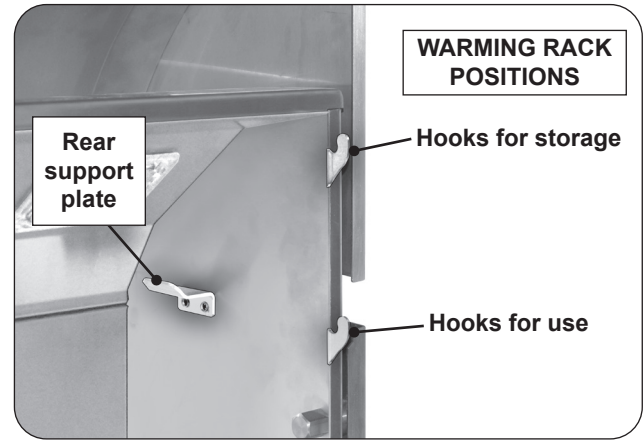
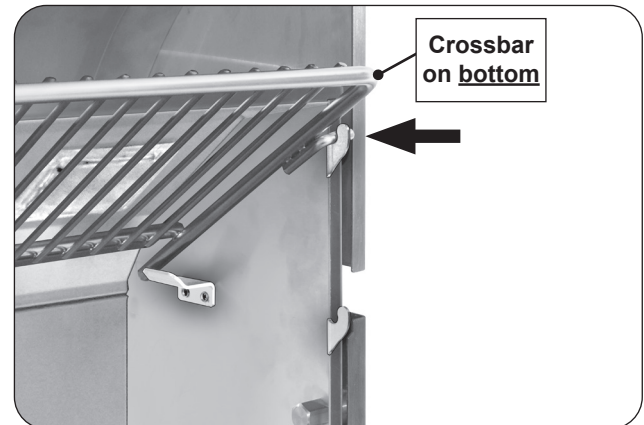

Fig. 30-1 Warming rack hooks
Fig. 30-3 Place warming rack in storage position
1. Locate the warming rack hooks and rear supports found on the upper portion of the grill oven (see Fig. 30-1).
3. Use the top hooks for storage (see Fig. 30-1 and Fig. 30-3).